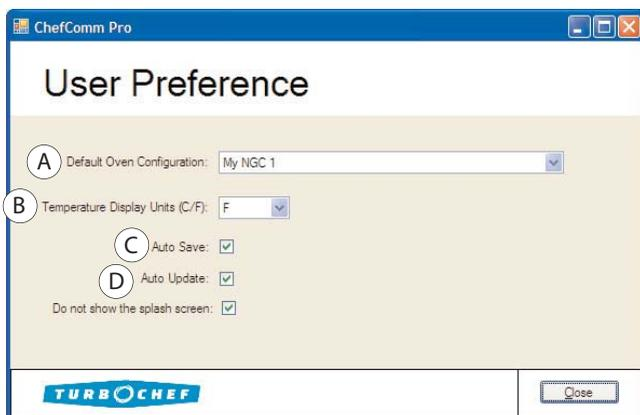

Figure 44: Preferences Window
2. Change the default oven configuration (Figure 44, Item A).
2. Change Temperature Display to “F” for Fahrenheit or “C” for Celsius (Figure 44, Item B).
2. Select **Auto Save** (Figure 44, Item C).
2. Select **Auto Update** (Figure 44, Item D).